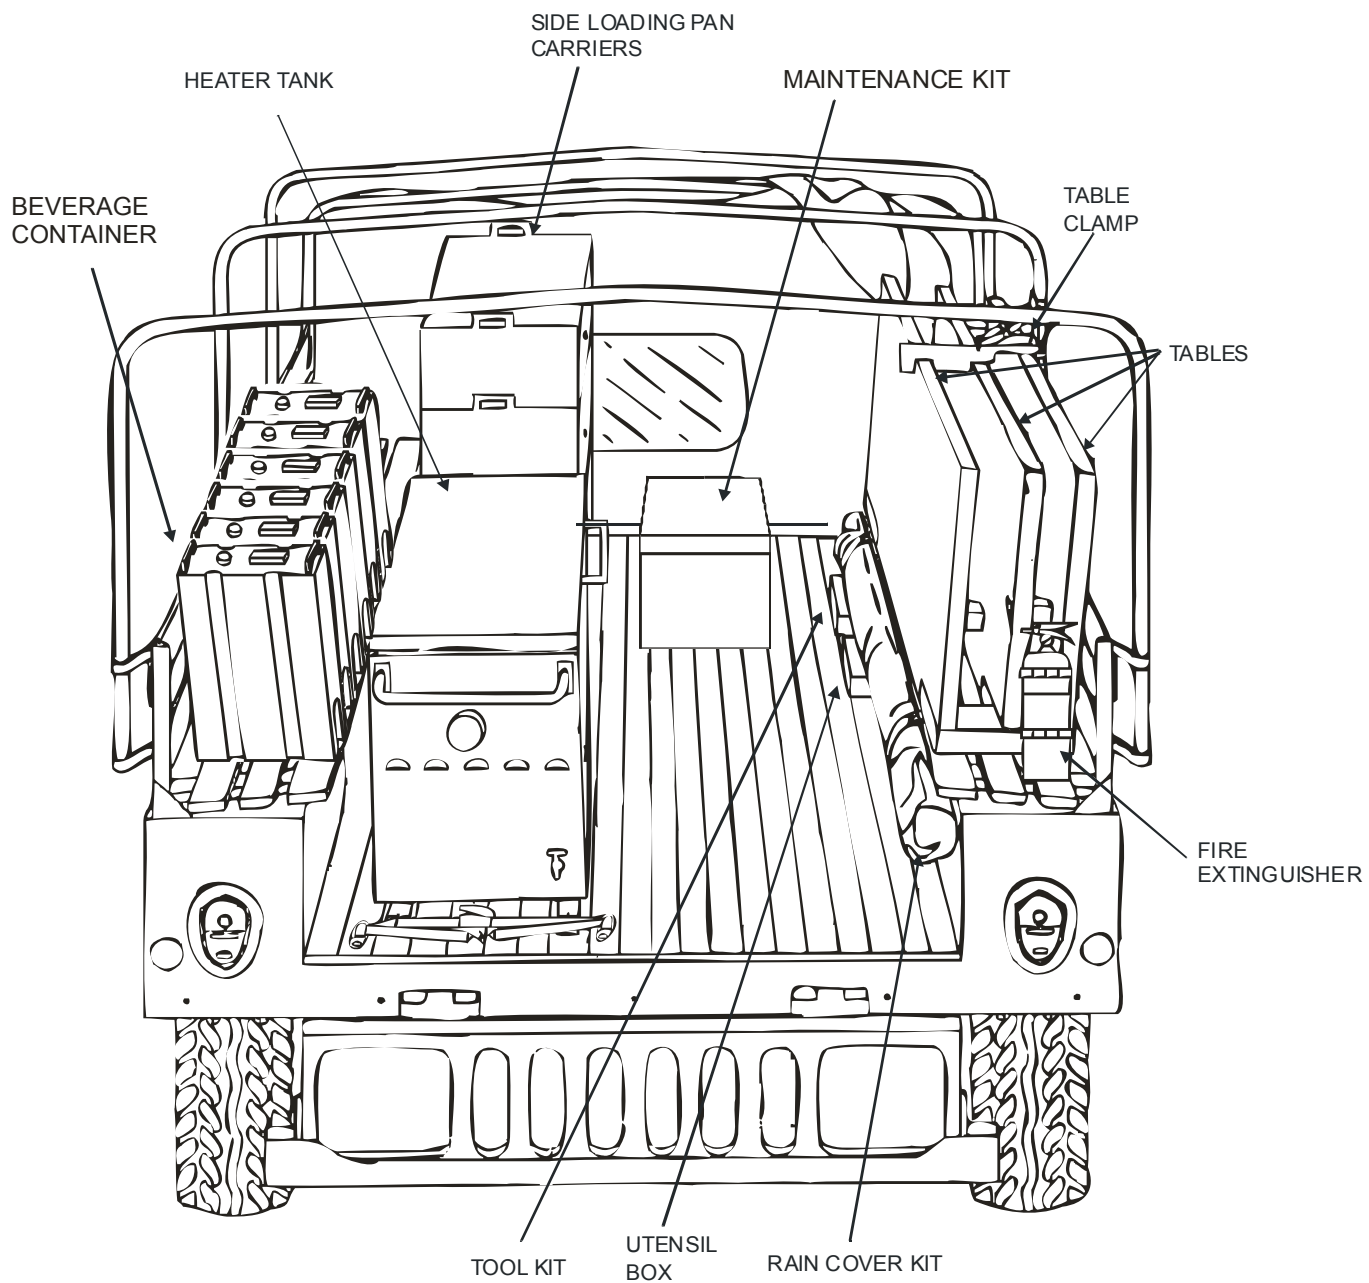

Figure 1-2. Installed TRHS, Tailgate View
1-3. SERVING TABLES, STOWING CLAMP, AND BRACKETS. **Three folding metal tables are stowed in the HMMWV as shown in figures 1-2 and 1-10. Two brackets, which fit on the right hand seat, secure the collapsed tables and prevent movement forward and back. A clamp, also installed on the right hand seat, and attached to the canvas support, secures and separates the tables.**
c. Other Equipment. Other essential TRHS collateral equipment includes: fire extinguisher, tool box, beverage dispensers, and serving utensils. Table 1-1 contains a complete listing of collateral equipment. Figure 1-2 shows collateral equipment stowed aboard the HMMWV. Figures A-1 and A-2 illustrate individual collateral equipment components.